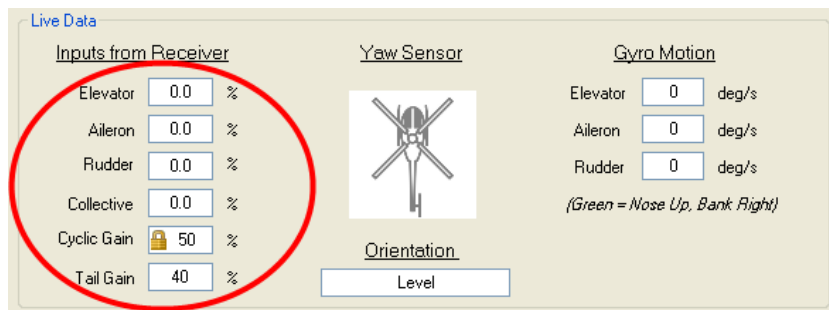

Figure 11.2 – Inputs From Receiver
- Try moving the elevator stick towards you (nose up) and look at the *Elevator* field under the *Inputs From Receiver* area (circled in Figure 11.2 on the next page). The number displayed should be close to 100% and should be shown on a **green** background when the transmitter's control stick reaches its stops. If it is negative and displayed on a **red** background, reverse that channel in your radio. If it's too low or reaches 100% much before the stick's limit, adjust the endpoints (ATV's) for that channel in your transmitter. Typical end point (ATV) values will be near 125% for JR/Spektrum radios.
- If the values in the *Inputs From Receiver* (circled in Figure 11.2 below) do not change as you move the sticks on your transmitter, check to see if your receiver is bound.
- Now look at the *Gyro Motion* fields in the *Live Data* area (shown in Figure 11.2 on the previous page). Note that these fields sense movement, not angles.
- You can see the effect of changes in your transmitter's endpoints on your gain settings by looking at the *Cyclic Gain* and *Tail Gain* fields in the Live Data area of the PC setup software (see Figure 11.2 on Page 31). Set your tail and cyclic gains using your radio's endpoints. 50% is a safe starting point for both the tail and cyclic gains¹.
- Locking a gain will cause the SK720 to use the fixed value, regardless of the gain channel's end point setting. A small lock icon in the Cyclic Gain or Tail Gain fields in the live data area indicates that locked gains are being used (see the *Cyclic Gain* field in Figure 11.2 on Page 31).